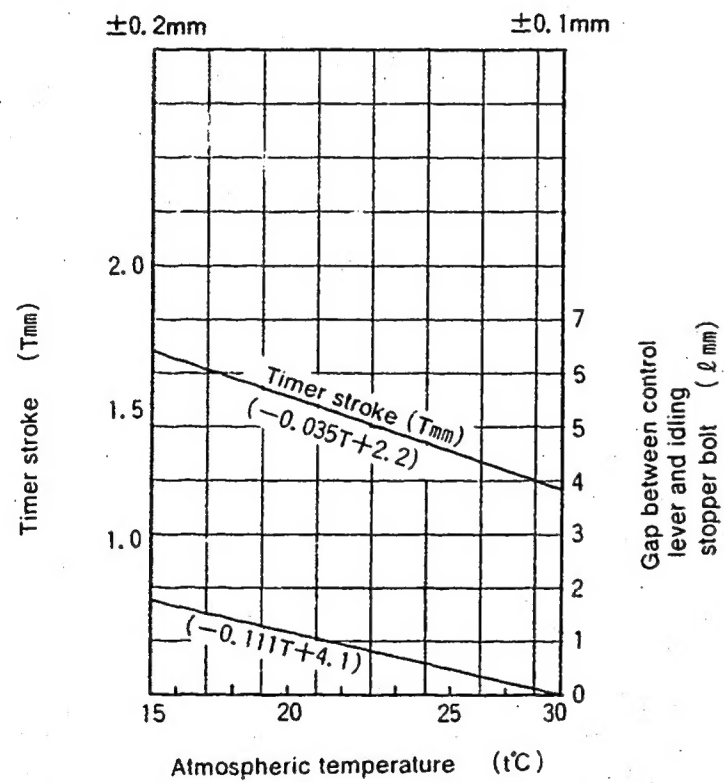

Fig. 2
1. Calculate the timer stroke from Fig. 2 according to the atmospheric temperature at the time of adjustment.
1. Calculate the block gauge dimension  $l \pm 0.05\text{mm}$  from Fig. 2 according to the atmospheric temperature at the time of adjustment.